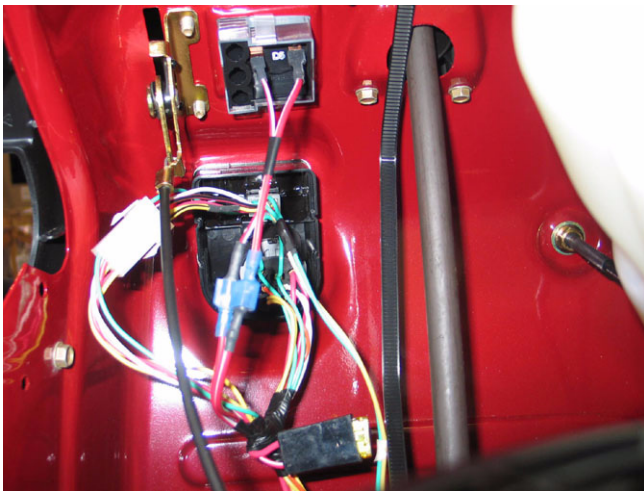

Figure 17.7
- 17.7. The RMC Module is in the same housing as the key switch, and is not available separately. For the purpose of diagnosis it is treated separately. Diagnosis in unit with the key switch introduces too many over-lapping variables. See Figure 17.7.